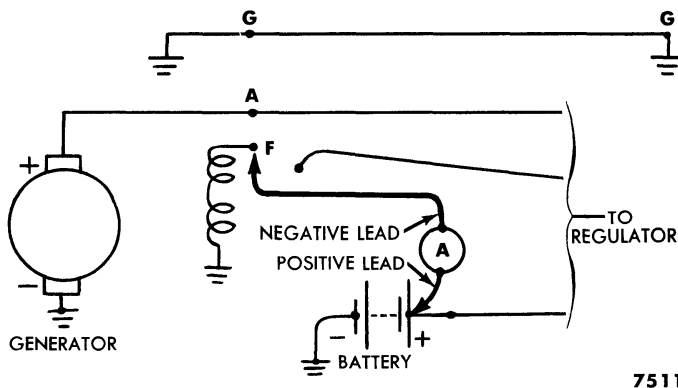

Fig. 12—Open Circuit Test of Field—Schematic
(1) **ON VEHICLE.** Disconnect the "FIELD" lead from the generator terminal. Connect a 0-5 ammeter from the battery to the "FIELD" terminal as shown in fig. 12. The normal current draw, as indicated by the ammeter, should be 1.4 to 1.6 amperes. If there is little or no current flow, the field has a high resistance or is open. A current flow, considerably higher than that specified above, indicates shorted turns.